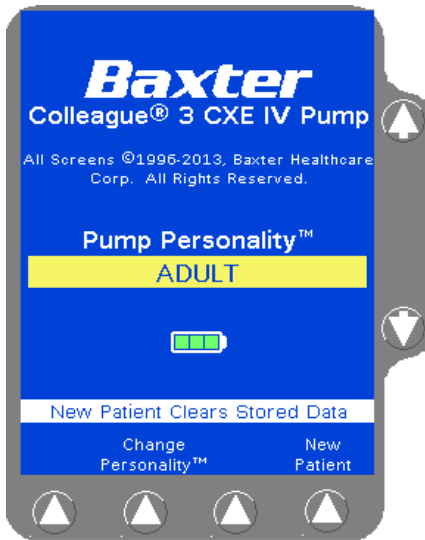

Figure 4-4 Power On Screen After Self-Test
- 3.1 If the continuous tone is heard, press the **Yes** soft key. The pump completes its self-test and then displays the Power On Screen After Self-Test (Figure 4-4).
- On completion of all self-diagnostic tests, the Power On screen changes to the display shown in Figure 4-4 (for triple channel pumps, Channels B and C power off after self-diagnostic tests complete). The soft keys available on this screen depend on the configuration options selected for the pump:
1. Press the **Change Personality** soft key from the Power On Screen after Self Test (Figure 4-4). A list of available PERSONALITY feature sets is displayed.